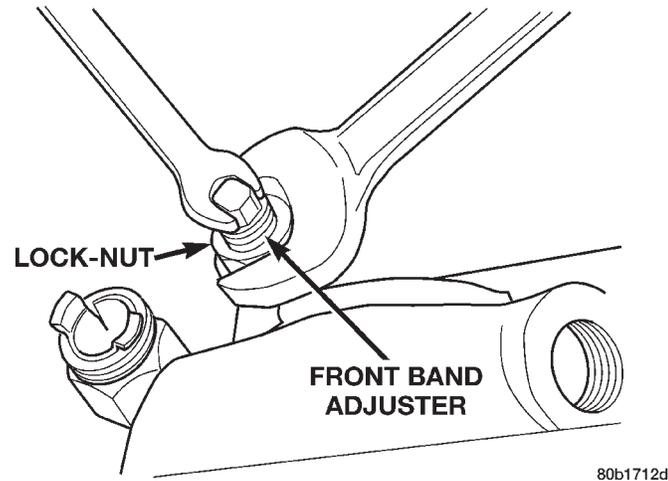

Fig. 277 Front Band Adjustment Screw Location
- (1) Raise vehicle.
- (2) Loosen band adjusting screw locknut 3-5 turns (Fig. 277). Be certain the center adjusting screw turns freely in case. Apply lubricant to screw threads if necessary.
- (3) Tighten the band adjusting screw to 8 N·m (72 in. lbs.) torque with Inch Pound Torque Wrench C-3380-A, a 3-in. extension and 5/16 socket.